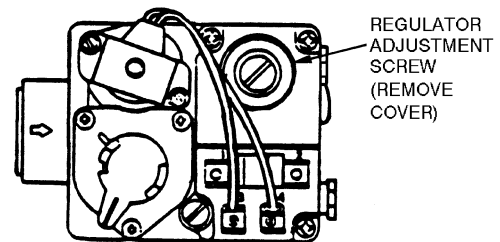

Fig. 36 — Gas Valve
6. Remove screw cap covering regulator adjustment screw (See Fig. 36).